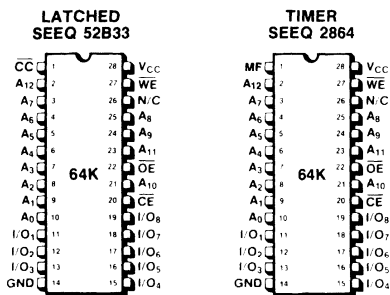

Figure 1. JEDEC Pinout — 64K E2ROMs
Both of these types of devices have the JEDEC-approved pinout shown in Figure 1, including the multi-functional pin 1, but differ in the timing of the control interface. The first E2ROM type, the latched type device, such as SEEQ's 52B33 latches the addresses, control, and data inputs on the falling edge of WRITE ENABLE (WE). For this type device, the WE input must remain active low for the duration of the write cycle. The second type of E2ROM, the timer-type device, latches addresses, data, and control signals on the rising edge of WRITE ENABLE or the rising edge of CHIP ENABLE (CE). For the timer device, such as SEEQ's 2864 the WE input need not be held low for the entire write cycle. The primary difference between the latched and timer devices is the control timing required to interface to the microprocessor. Each of these types of devices has advantages depending on system performance and configuration requirements.